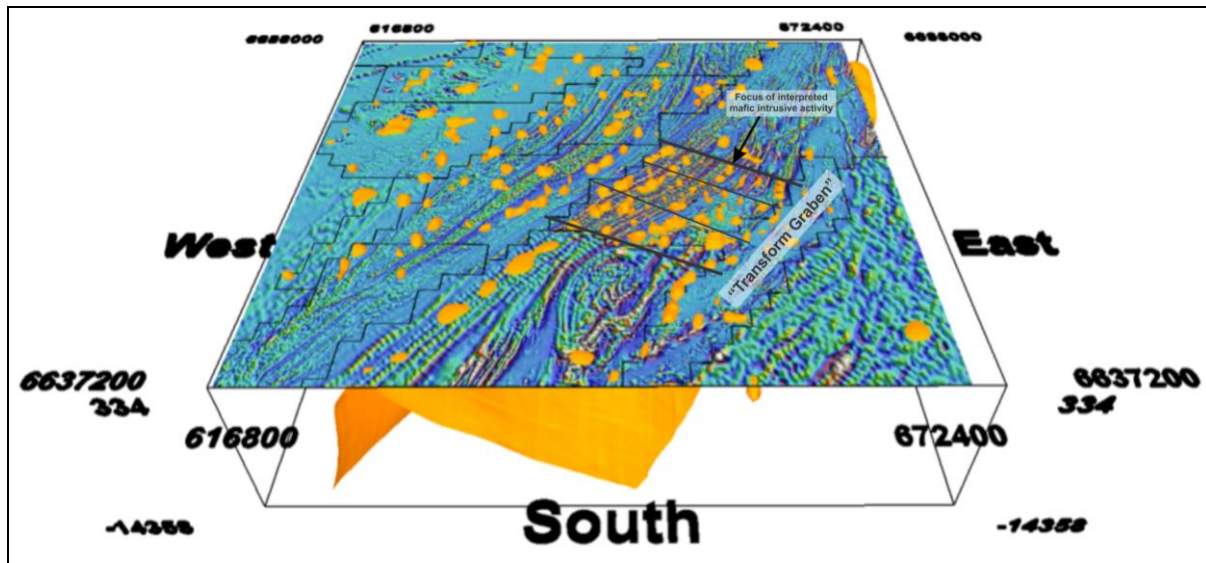

Figure 3: 3D Gravity Inversion (+1.0g/cc shell) with overlain magnetic image (RTP 1VD NE shade)
- The near-surface dense bodies are linked to much deeper dense bodies by a number of discordant pipe-shaped features which are interpreted to represent feeder zones between mafic to ultramafic magma chambers (**Figure 3**);